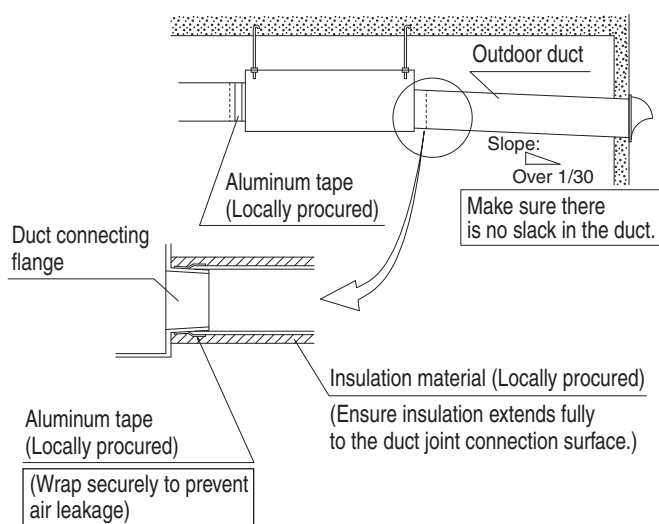

Fig. 16
- To prevent air leakage, wrap aluminium tape (locally procured) around the connecting section after the duct connecting flange (accessory) and duct have been connected. (Refer to Fig. 16)
- To prevent short circuit, install the opening of the indoor air intake (SA) as far as from the opening of the exhaust suction (RA).
Select the insulation thickness considering the ambient temperature around the duct and duct length. (Refer to Fig. 16)